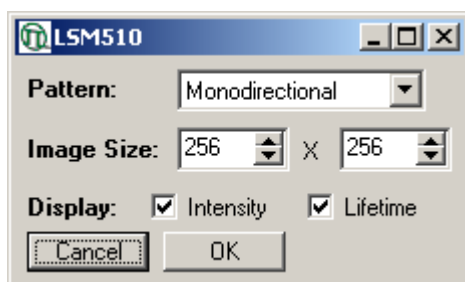

Fig. 2.6: SymPhoTime Pop-up window for LSM data acquisition.
2. **SymPhoTime software:** In the appearing pop-up window (see Fig. 2.6) you **set the scan pattern and the image size** in pixels analogue to the settings applied in the LSM510 software. Please note that the maximum image size is limited to 512 x 512 pixels. The “Display” settings let you choose which information should be displayed with the online image preview during data acquisition: Intensity information is displayed as brightness and lifetime as a special color, pixel per pixel. Finally press OK to start the LSM data acquisition.